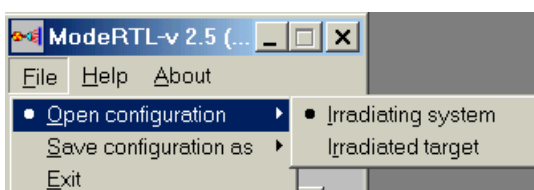

Fig.2. Frames "Open configuration"
- Again click the "File" then "Open configuration", then select, "Irradiated target" and load the file "Test.rtt". (See Fig.2).
- Again **click** the **"File"** then **"Open configuration"**, then **select** , **"irradiated target"** and **load the file "Test.rtt"**. (See Fig.2).